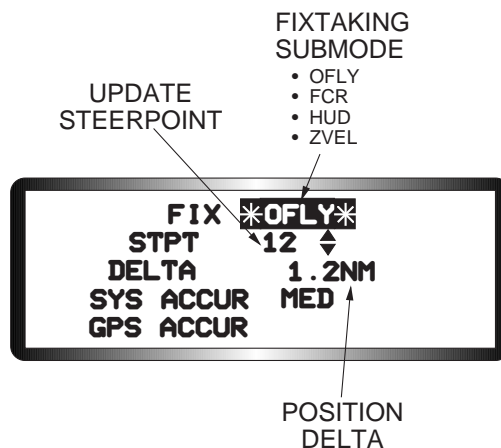

Figure 2-9 Fixtaking DED Page
**Position Updates.** To do a position update, the pilot must select the fixtaking mode by pressing the FIX key, number 8, on the ICP. The INS must be operational and the NAV mastermode must be selected. The fix-taking mode is automatically mode selected (FIX highlighted) when the FIX DED page appears (Figure 2-9). The mode may be toggled on and off by pressing the M-SEL key.
**Overfly Position Update.** To do an OFLY position update, the pilot enters the desired update steerpoint into the FIX page ( Figure 2-9), flies over the steerpoint, designates TMS-forward when directly over it, and presses ENTR to complete update. When ENTR is pressed the position delta is updated, the FIX submode is exited, and the CNI page returns to the DED. Overfly position updates may be accomplished with the gear up or down.